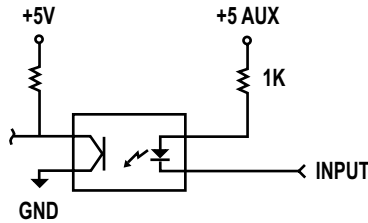

Figure 1 - Logic Input Circuit (Enable, DTS)
**NOTE:** Logic *low* input minimum voltage ( $V_{IL}$ ) is 0.8V; logic *high* input minimum voltage ( $V_{IH}$ ) is 2.0V. See circuit in Figure 1.